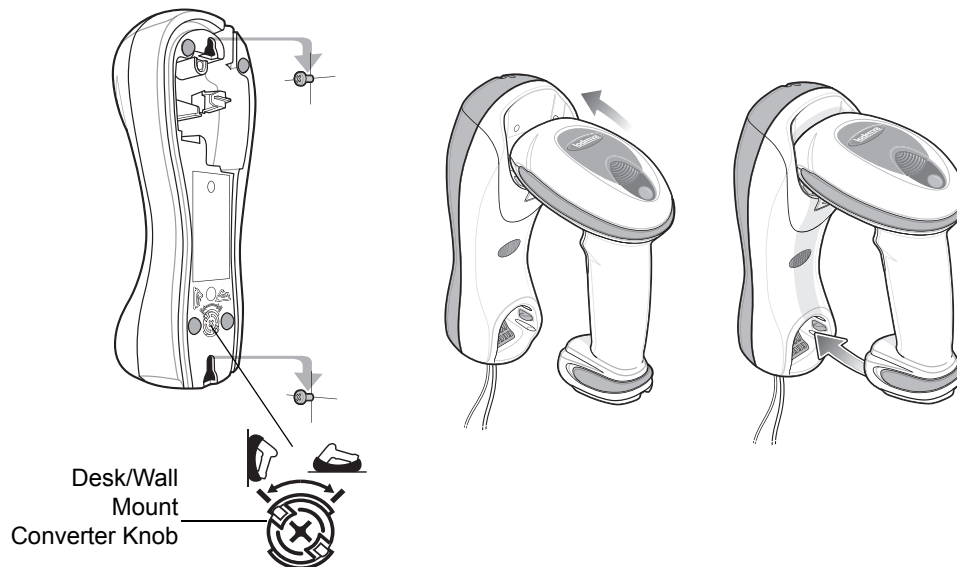

Figure 1-11 Vertical Mount - Inserting the Digital Scanner in the Cradle
3. Ensure the desk/wall mount converter knob is in the position shown in Figure 1-11.